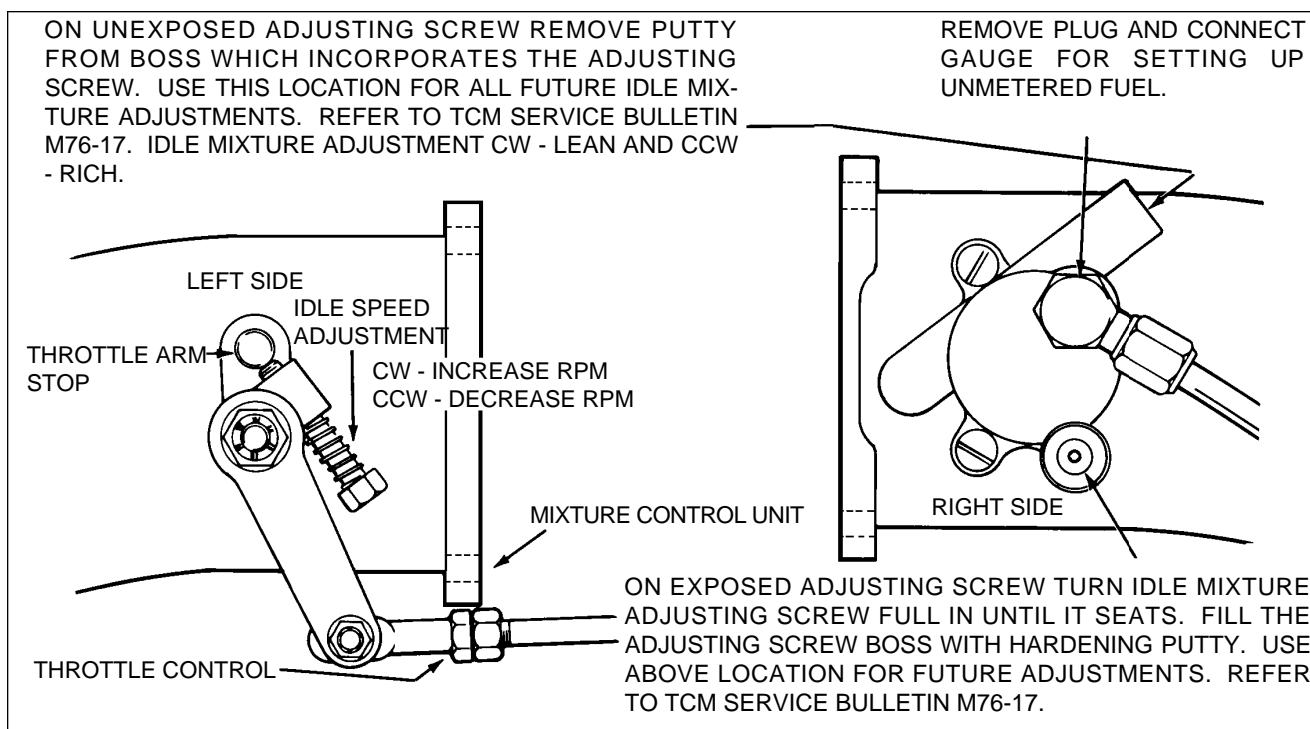

Figure 76-3. Idle Speed and Mixture Adjustment Points
1. Remove the cap from the tee fitting on the right side of the throttle body. (Refer to Figure 76-3.)
1. Back off the idle speed adjusting screw two turns. (Refer to Figure 76-3.)
CHECK AND ADJUSTMENT OF IDLE MIXTURE. (Refer to Figure 76-3.)
CHECK AND ADJUSTMENT OF IDLE MIXTURE. (Refer to Figure 76-3.) (continued)
CHECK AND ADJUSTMENT OF IDLE SPEED (Refer to Figure 76-3.)